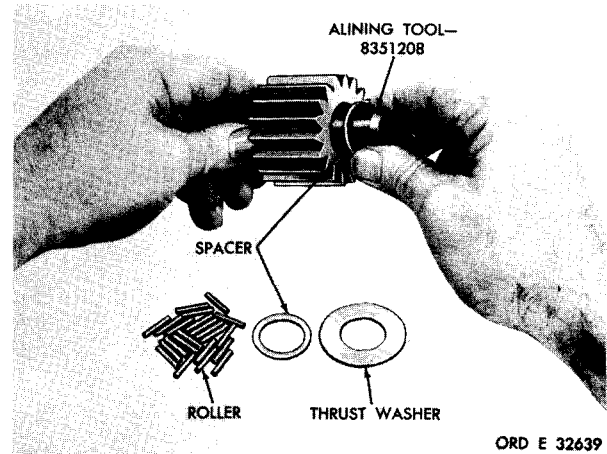

Figure 216. Installing planetary carrier pinion spacer
\*f. Place a spacer over the alining tool, and into the pinion, then install 22 additional spindle rollers (fig. 216).
g. Install a spacer and then a thrust washer over the alining tool. Remove the alining tool (fig. 216).